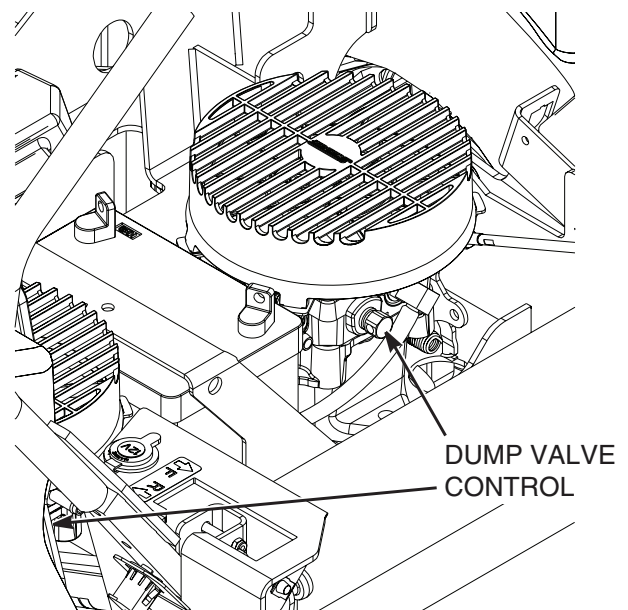

Figure 4-5. Dump Valve Control
10. **Dump Valve Control Levers (Figure 4-5).** Located on the hydraulic pumps, used to “free-wheel” the mower. Rotating clockwise until they stop allows the unit to move under hydraulic power. The levers must be in this position and torqued to 10 lb-ft during operation of the mower. Rotating counter-clockwise allows the mower to be moved by hand (free-wheeling). See Figure 4-5.